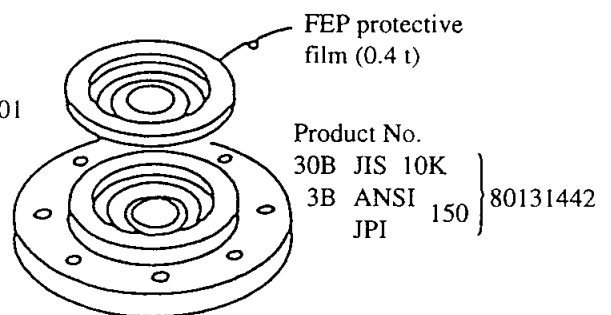

Figure 5.2
3. Fit a FEP protective diaphragm into the raised face of the diaphragm (refer to Figure 5.2.)